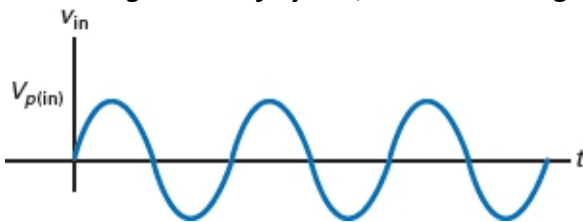

Figure-34 Input to half-wave rectifier
- Figure-34 shows a graphical representation of the input voltage waveform.
- The output frequency is the same as the input frequency. This makes sense when you compare Figure-35 with Figure-34. Each cycle of input voltage produces one cycle of output voltage. Therefore, we can write: